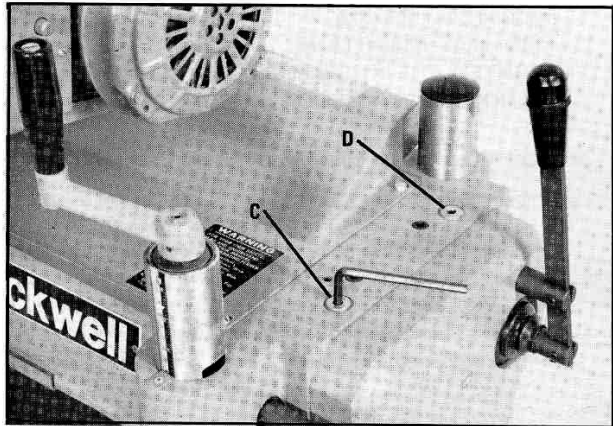

Fig. 51
To adjust the spring tension of the infeed roll, turn screw (C) Fig. 51, and also the screw on the opposite end of the roll.
To adjust spring tension of the outfeed roll, turn screw (D) Fig. 51, and also the screw on the opposite end of the planer.